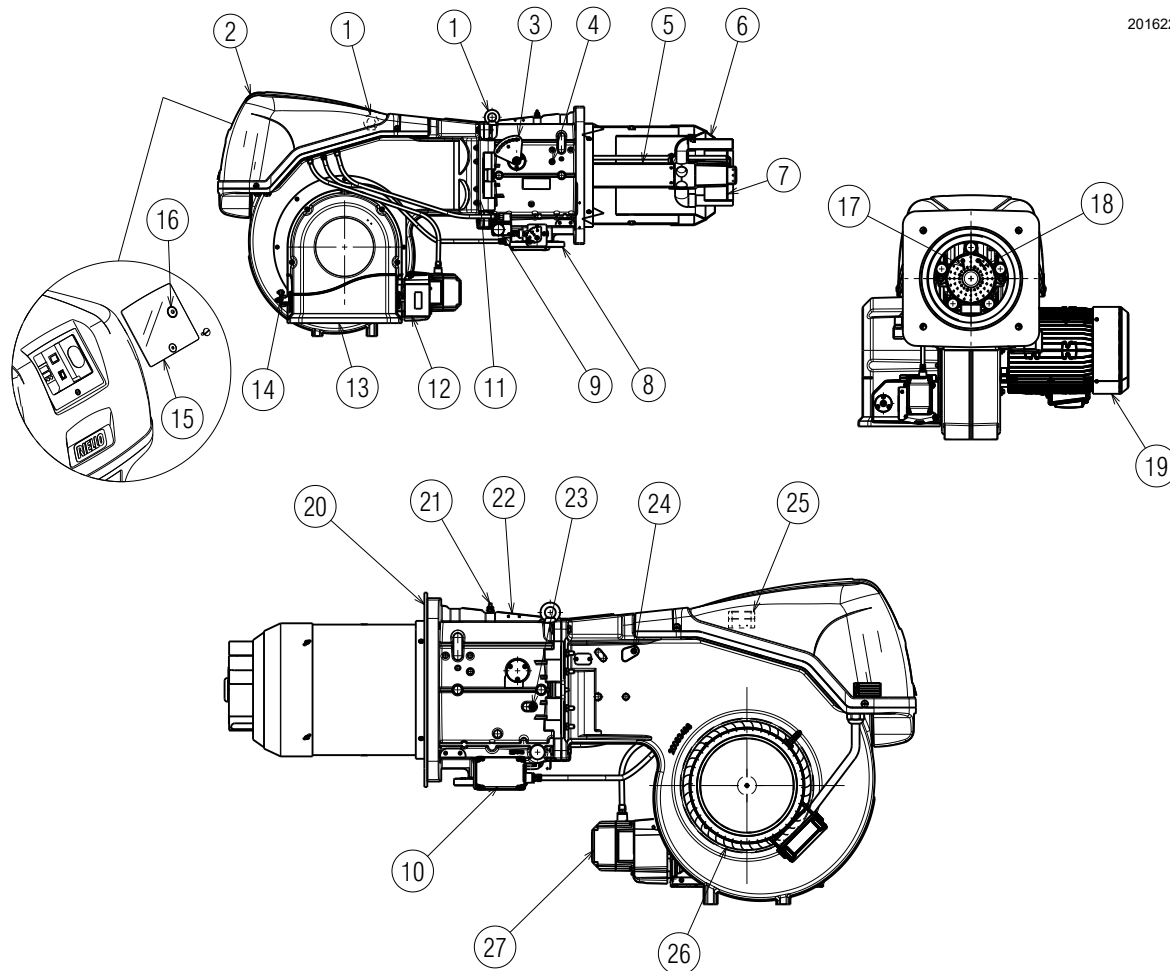

Fig. 4
- (1) Reference conditions: Ambient temperature 20°C - Gas temperature 15°C - Barometric pressure 1013 mbar - Altitude 0 m a.s.l.
(2) Pressure at the test point of the pressure switch (20)(Fig. 4) with zero pressure in the combustion chamber and at maximum burner output.
(3) Sound pressure measured in manufacturer's combustion laboratory, with burner operating on test boiler and at maximum rated output. The sound power is measured with the "Free Field" method, as per EN 15036, and according to an "Accuracy: Category 3" measuring accuracy, as set out in EN ISO 3746.